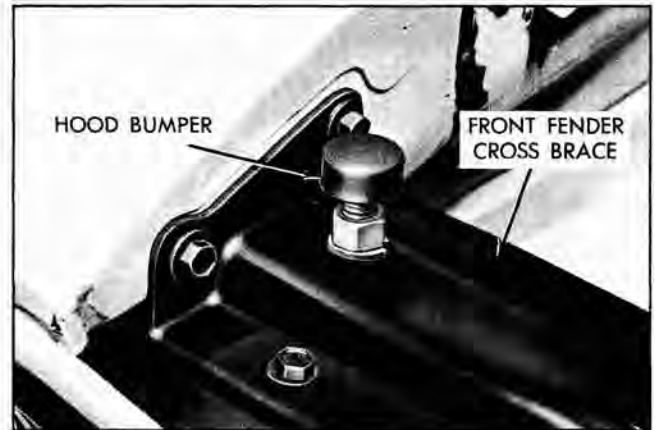

Fig. 11-7 Hood Bumper
2. Raise or lower hood bumpers on front fender cross brace (Fig. 11-7).